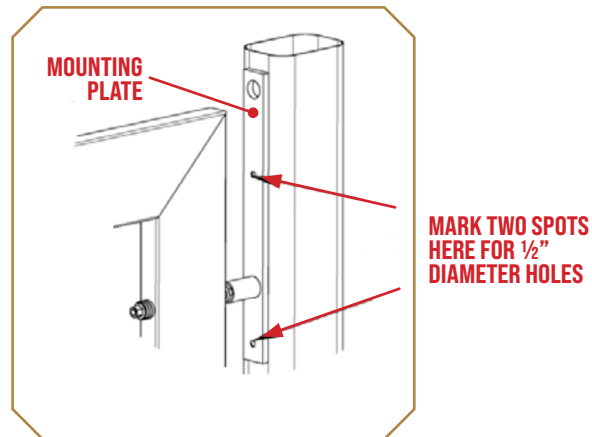

Figure 4
1. Using the mounting plate, mark two hole centers shown on Figure 4. Assure they are centered on the inside of the latch post.